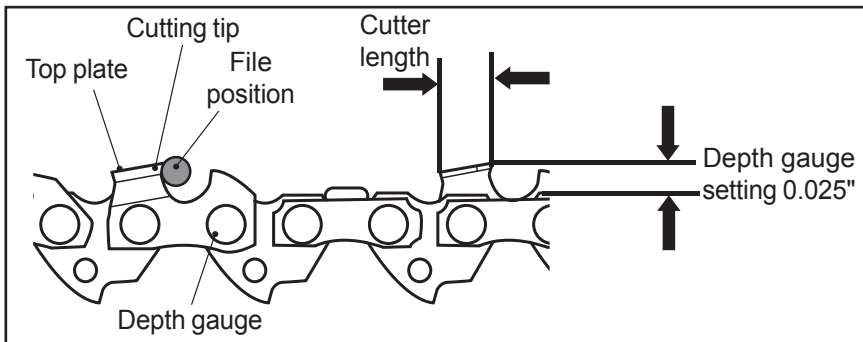

Fig. 43
9. Use a depth gauge measuring instrument to check the height of the depth gauge. Depth gauge measuring jigs are available from most reputable tool merchants (Fig. 43).